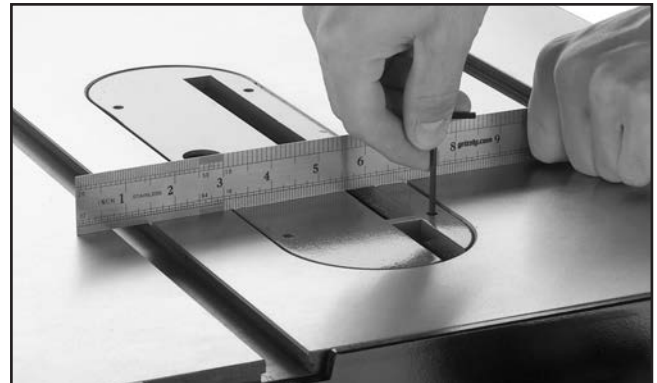

Figure 31. Adjusting insert flush with table.
2. Adjust table insert set screws to make sure insert is flush with table, using a straightedge as a guide (see **Figure 31**).